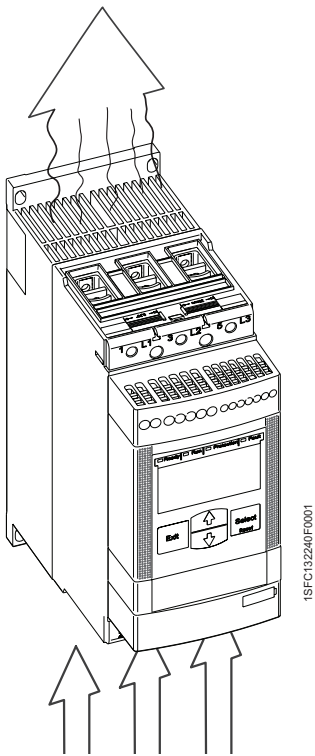

Figure 4.4: Airways
*Make sure that the distances to the surrounding walls are sufficient, and that the mounting angle is within specifications shown in figure 4.5. Follow the minimum distance to front and wall, as described in figure 4.4 and the table below.*